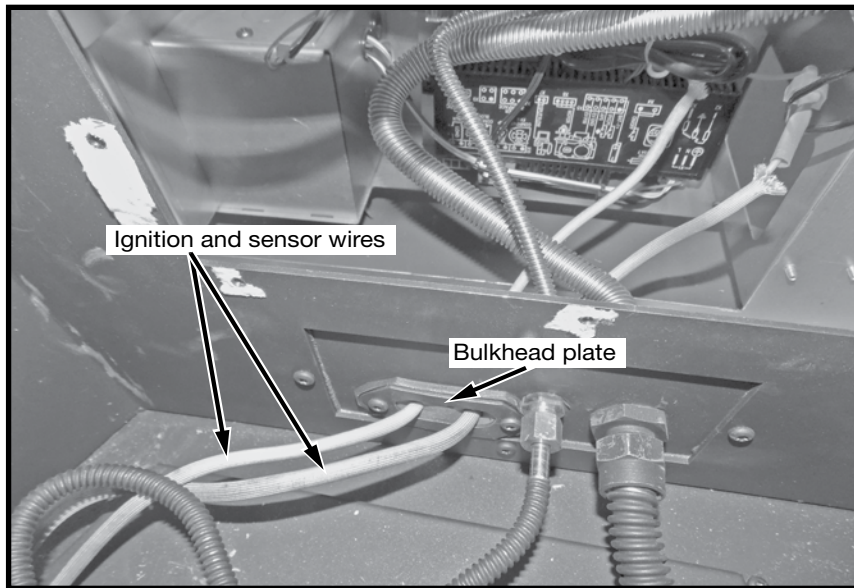

Figure 7: Remove access panel.
6. Feed the ignition and sensor wires through the bulkhead plate to the interface module. (Figure 7).